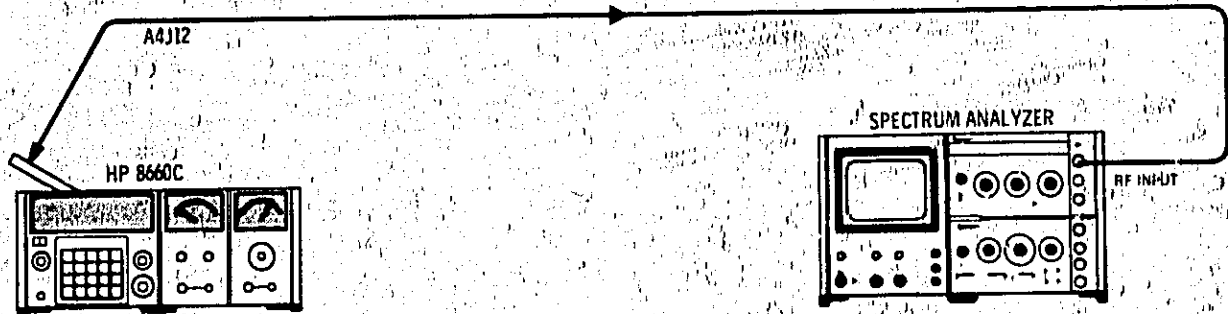

Figure 5-14. Output Amplitude Check Test Setup
6. Output Frequency and Amplitude Check (see Figure 5-14).